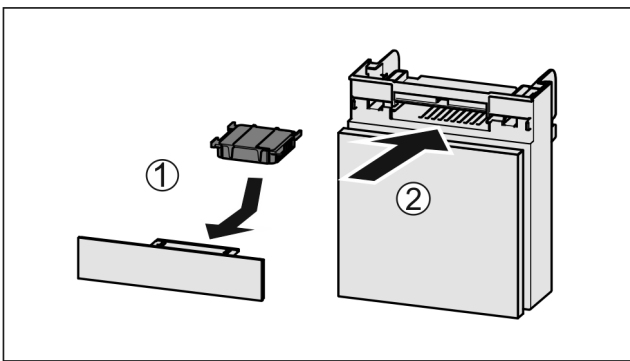

Fig. 58
- ▶ Insert the carbon filter as shown in the diagram Fig. 58 (1).
- ▶ Push the compartment in Fig. 58 (2).